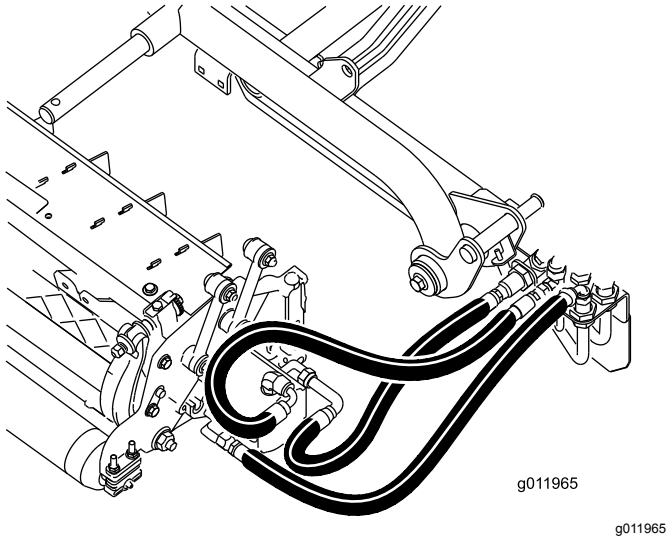

Figure 21
**Important:** Ensure that the hoses are free of twists or sharp bends and that the rear cutting unit hoses are routed as show in (Figure 21). Raise the cutting units and shift them to the left (Model 03171). The rear cutting unit hoses must not contact traction cable bracket. Reposition the fittings and/or hoses, if necessary.